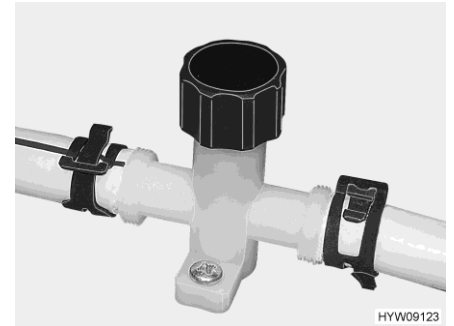

Fig. 91 Drain cock (water pipe)
- Close the drain cocks. In order to do this, turn the cap of the drain cock (Fig. 91) in a clockwise direction.